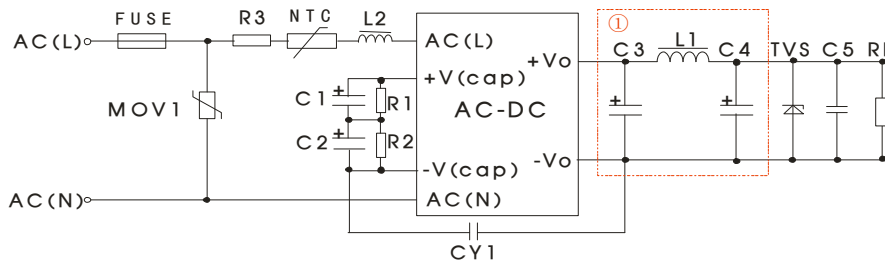

Fig. 1
RE	CISPR22/EN55022/FCC part 15 CLASS A (See Fig. 1 for typical application circuit)
EFT	IEC/EN 61000-4-4 ±2KV (See Fig. 1 for typical application circuit) perf. Criteria B
Surge	IEC/EN 61000-4-5 line to line ±1KV (See Fig. 1 for typical application circuit) perf. Criteria B
2.It is necessary to add pi-type filter circuit to the output, such as the typical application of Figure 1.